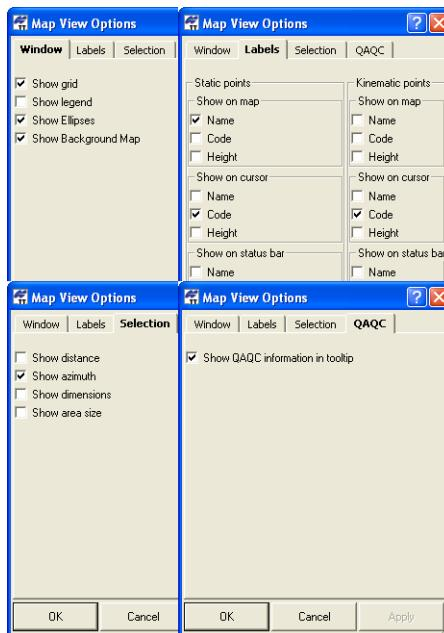

Figure 4-47. Window, Labels, Selection and QAQC Tabs of the Map View Options
1. Click **View ▶ Map View Options** or right-click on an empty portion of the Map View and click **Options** on the pop-up menu (Figure 4-47 on page 4-43).
- On the *Show* tab, enable the desired settings (Figure 4-47). Click **Apply** to save the settings and make further changes.
2. On the *Labels* tab, enable the desired settings (Figure 4-47 on page 4-43). Click **Apply** to save the settings.
3. On the *Labels* tab, enable the desired settings for static and kinematic points (Figure 4-47 on page 4-43). Click **Apply** to save the settings.
4. On the *Selection* tab enable the desired settings (Figure 4-47 on page 4-43). Click **Apply** to save the settings and make further changes.
5. On the *QAQC* (Quality Analysis Quality Control) tab, if desired, enable the following setting (Figure 4-47 on page 4-43). Click **Apply** to save the setting.
3. On the *Labels* tab, enable the desired settings (Figure 4-47).